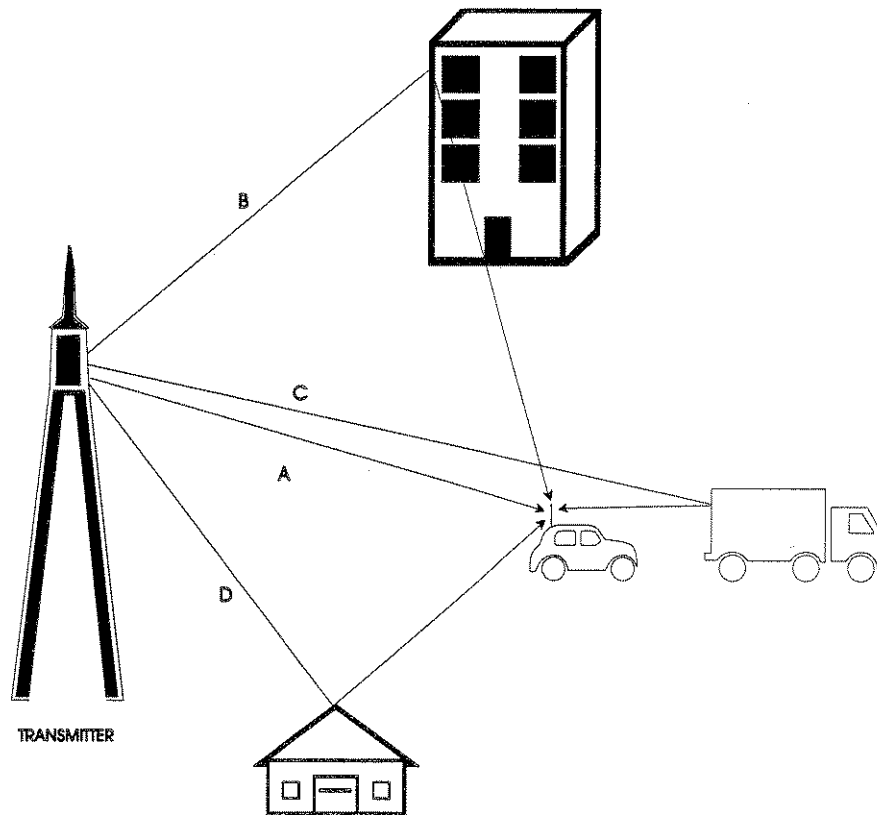

Figure 3-4. Transmitter to Receiver Signal Diagram
Relative path delay is a phenomenon where individual signal paths from the transmitter to the receiver arrive at different times. An example of this is shown in Figure 3-4 between Paths (A) and (C). Path (C) will arrive at the receiver (the automobile) a finite time after signal Path (A). The net effect of the arrival time difference is to spread the signal in time. In a digital system this will cause received symbols to overlap resulting in inter-symbol interference.
Relative path loss is a phenomenon where individual signal paths arriving at the receiver are at different absolute power levels. The difference in power levels between paths is caused by the physical obstructions in the signal path. Referring to Paths (A) and (C) in Figure 3-4, Path (C) will arrive at a lower power level than Path (A). This occurs since some amount of the power in signal Path (C) is lost when it reflects off the truck. Signal strength will also vary due to the distance the signal travels. The loss of signal strength should follow the $1/d^2$ law, where d is the distance between the transmitter and the receiver. In the actual cellular environment the loss is much worse, (between $1/d^3$ to $1/d^6$), due mainly to variations in the terrain.